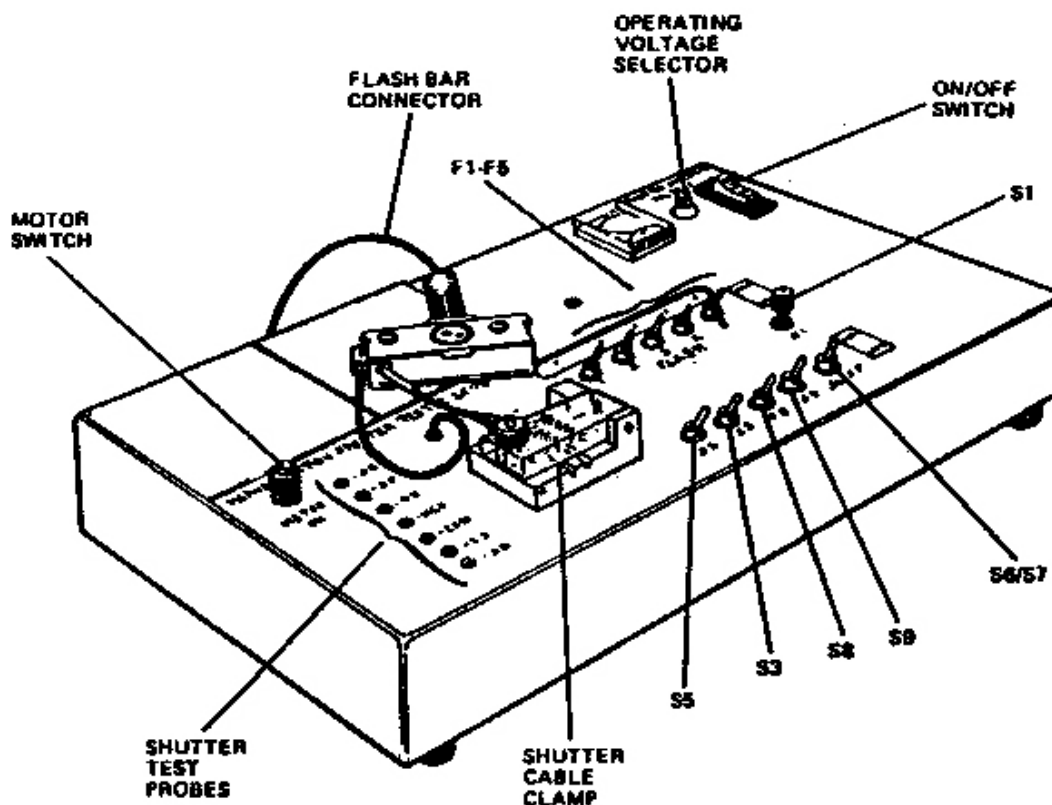

Figure 3-10 Manual camera tester
6. Manual Function Tester (Figure 3-10).